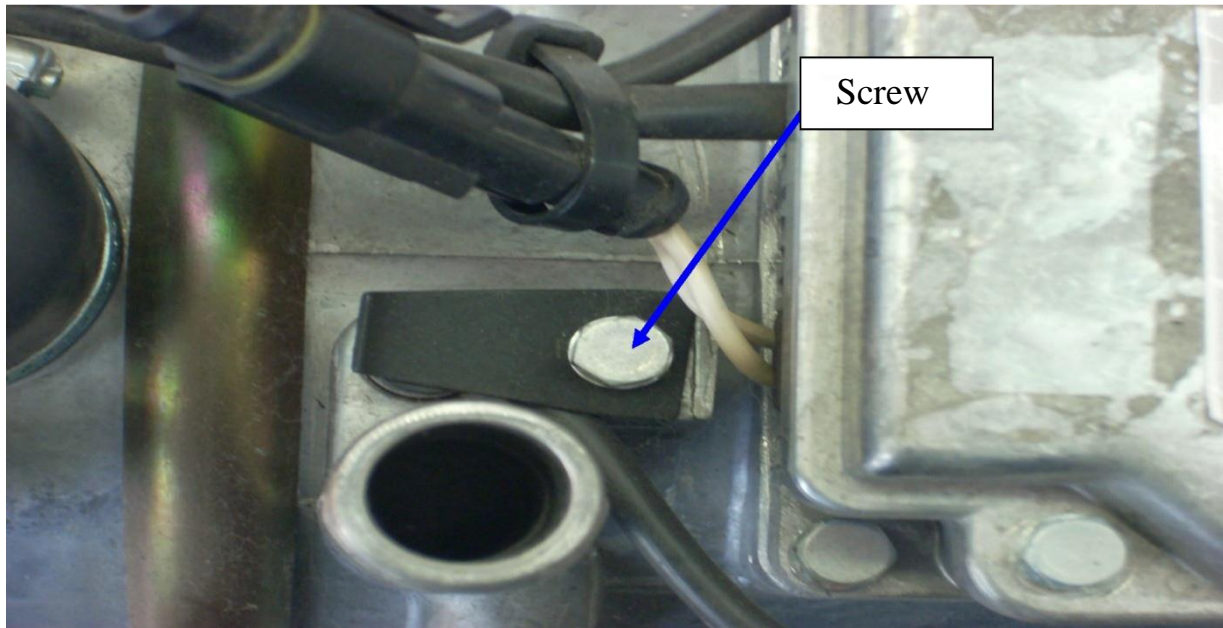

Fig. 8 - Temperature sensor installation and dismantling
The temperature sensor dismantling must be carried out as follows (see Fig. 8):
- unscrew the screw (see Fig. 8), remove the hold-down clamp from the sensor and remove the sensor from the heater housing;